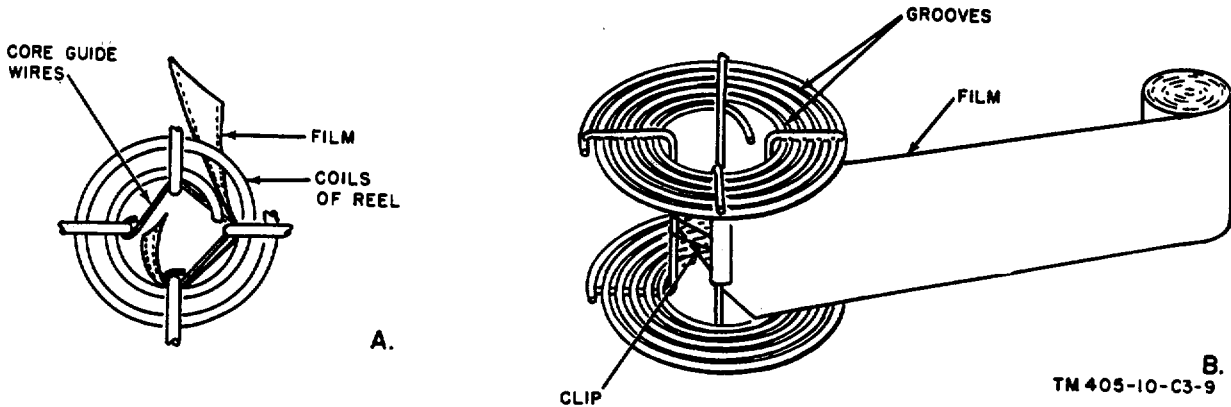

Figure 31.2. Method of threading film.
f. For other films, slide the end of the film under the clip as shown in B, figure 31.2. Center the film under the clip.